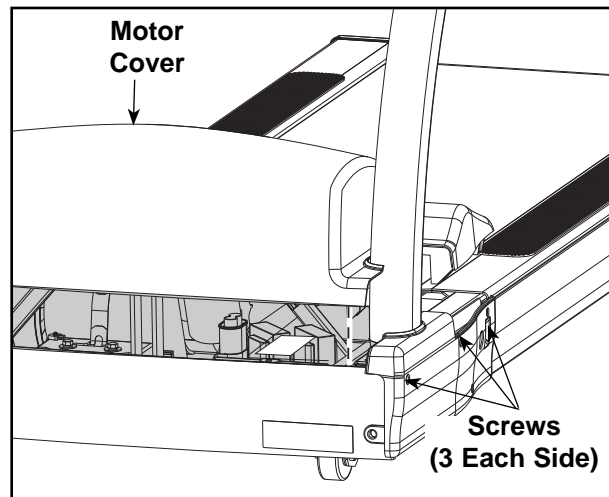

Figure 2
- A. Turn the main power switch on the left side to the off (O) position.
- A. Using a Phillips screwdriver, loosen three screws on each motor cover side (left and right). See Figure 2.
- B. Lift the motor cover up and off the treadmill. The screws will stay in place. See Figure 2.
- A. Lower the motor cover center into position. See Figure 2.